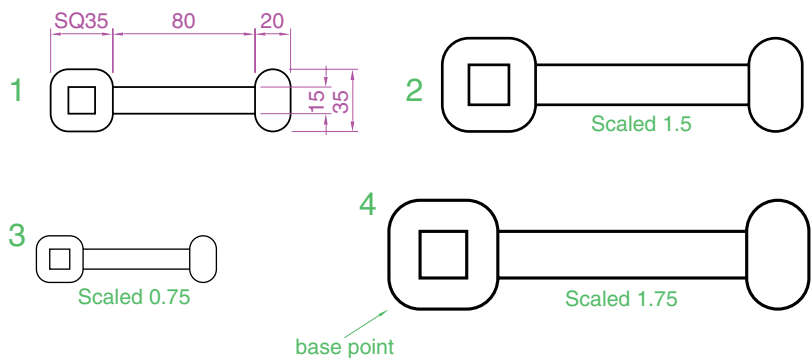

Fig. 5.29 Examples – **Scale**
Examples – Scale (Fig. 5.29)
- Using the **Rectangle** and **Polyline** tools, construct drawing **1** of Fig. 5.29. The **Rectangle** fillets are R10. The line width of all parts is **1**. Copy the drawing three times to give drawings **2**, **3** and **4**.
The results are shown in Fig. 5.29.